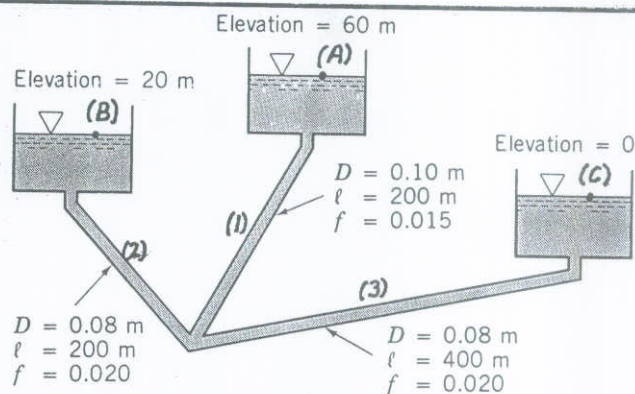

FIGURE P8.112
8.112 The three water-filled tanks shown in Fig. P8.112 are connected by pipes as indicated. If minor losses are neglected, determine the flow-rate in each pipe.